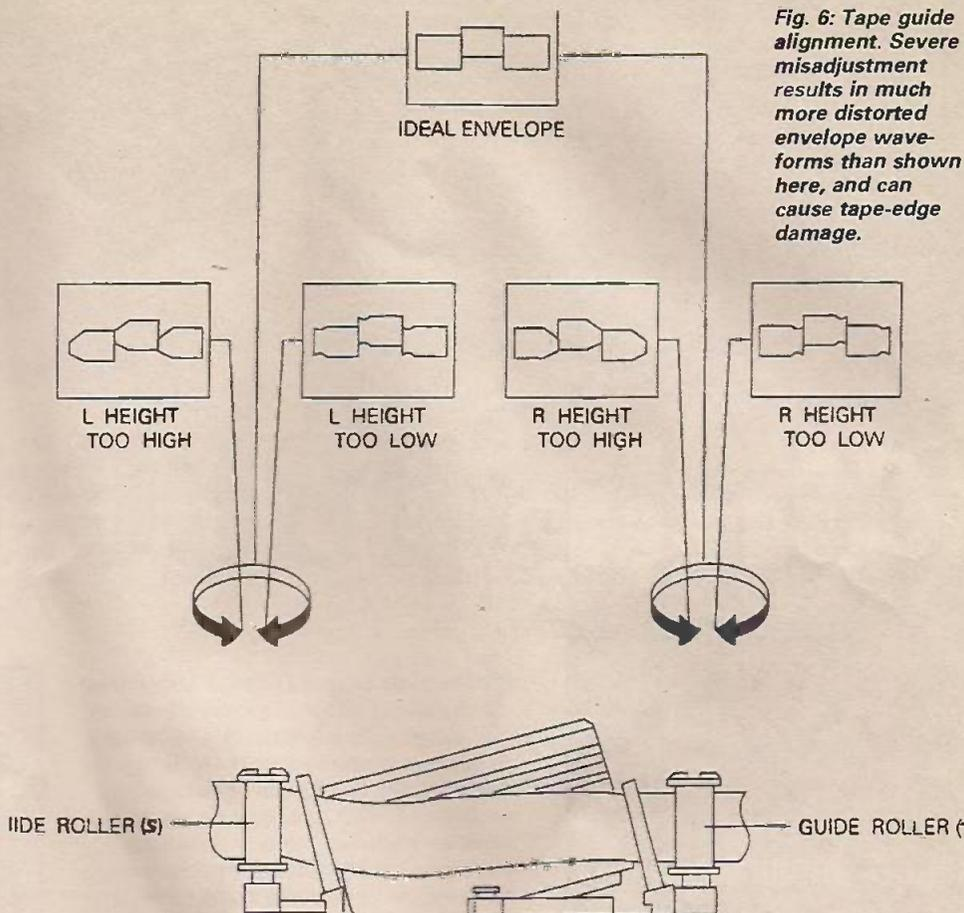

Fig. 6: Tape guide alignment. Severe misadjustment results in much more distorted envelope waveforms than shown here, and can cause tape-edge damage.
can be seen to start to 'bubble' on the rabbet. Observe the RF envelope pattern from the heads during playback of an alignment tape, using an oscilloscope that's synchronised with the head flip-flop (SW25) pulses. Screw the guide up until the bubbling just stops, then finely adjust for a good entry-side waveform, see Fig. 6.
The comments above about the entry guide apply equally to the exit (T) guide on the other side of the drum. This should be adjusted for a good square envelope waveform at the end of the head scan, see Fig. 6. Once again, before you try adjustment check the guide's physical conditions and its positioning at the end stop, and ensure that the tape just touches the rabbit while running.